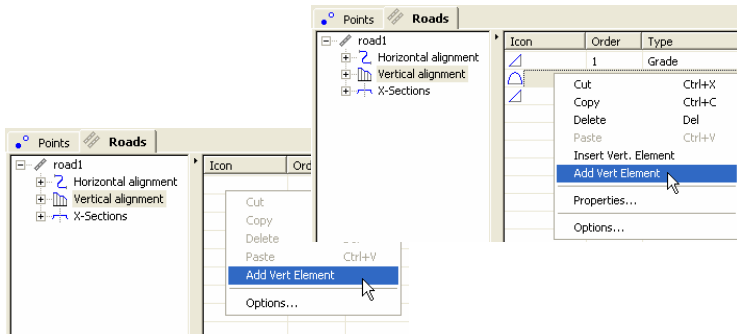

Figure 9-56. Adding a Horizontal Element on the Right Panel
- In the right panel, right-click in the *Roads* tab or the selected element and click **Add Vert Element** (Figure 9-56).